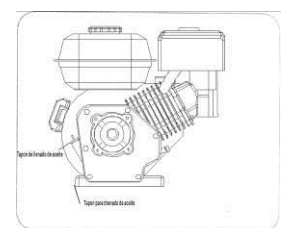

Figure 25
- Unscrew oil fill cap from oil filler tube and wipe dipstick clean. See Figure 25.
1. Locate the oil drain plug, See figure 25.
3. Clean area around oil drain plug, see Figure 25.